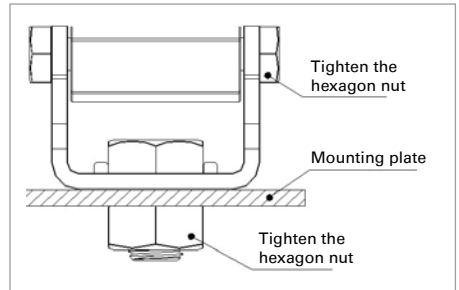

Figure 2
- d. Guide the screws through the mounting holes and mount the spring washer. Then tighten the hexagon nuts (see Figure 2).